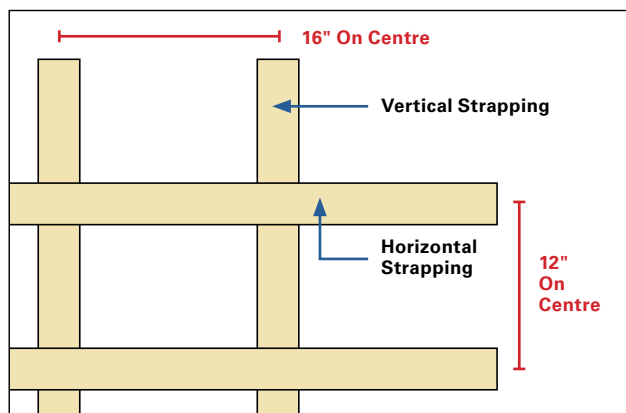

Fig. 8
- Next install the horizontal strapping on top of the vertical strapping at **12" on center**. *(See Figure 8)*